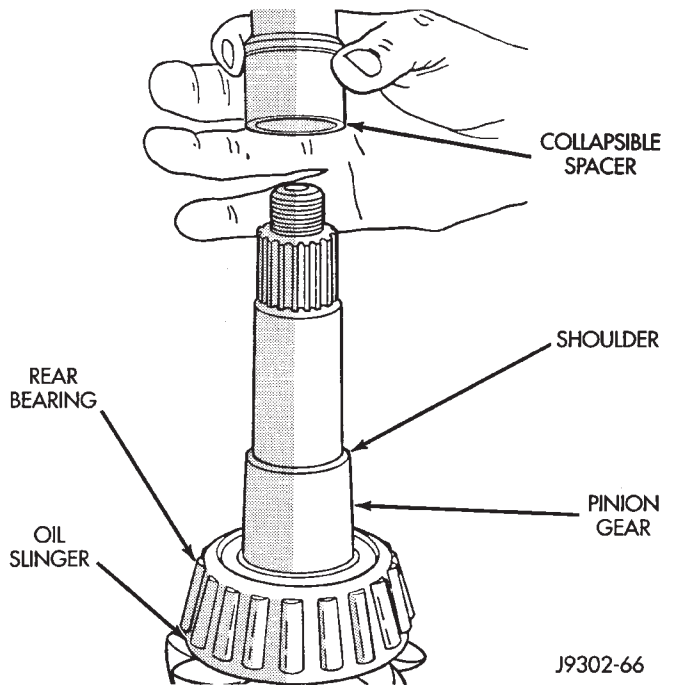

Fig. 44 Collapsible Preload Spacer
(9) Install a new collapsible preload spacer on pinion shaft and install pinion gear in housing (Fig. 44).